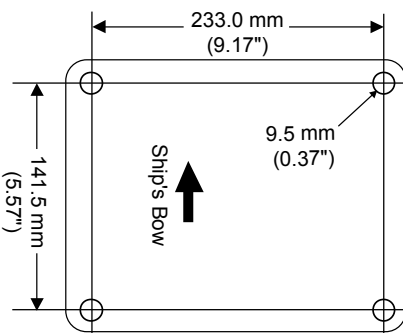

Figure 1
1. When a suitable mounting location has been determined, verify that the mounting hole locations are aligned fore and aft, then drill four 9.5 mm (0.37") mounting holes referencing Figure 1 below. (This step is not necessary if you are using a pre-drilled Garmin compatible or Raymarine® mount.)